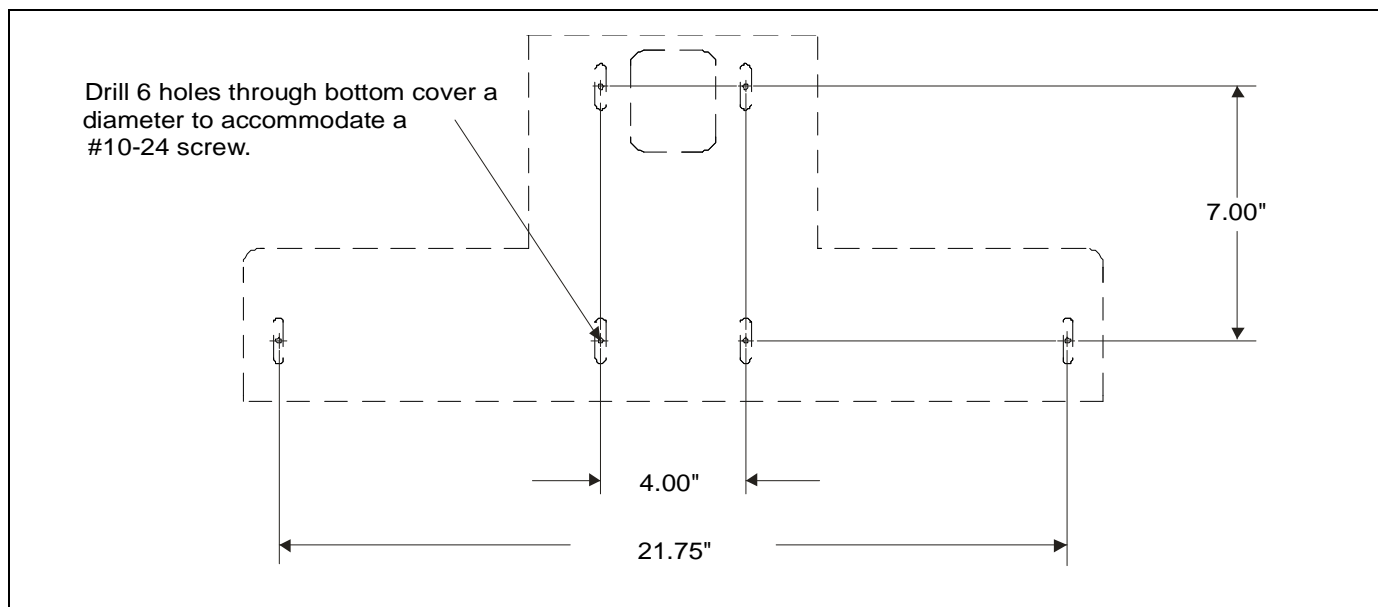

Figure 24
4. Prepare bottom cover by cutting to appropriate size, allowing for clearance between cover and opening in ceiling, and drilling 6 through holes using the dimensions and pattern in the figure below.. (See figure 24)